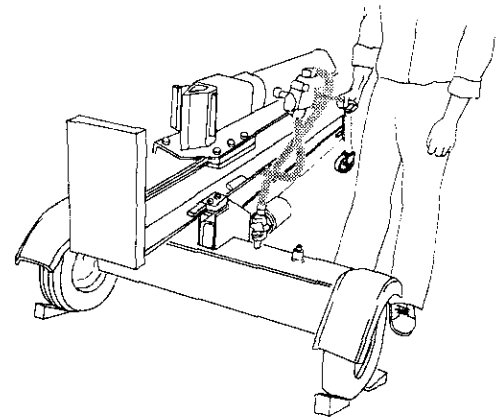

Figure 12
- Stand behind the reservoir tank. See Figure 12. Operate the control handle with your right hand and stabilize the log, if necessary, with your left hand.